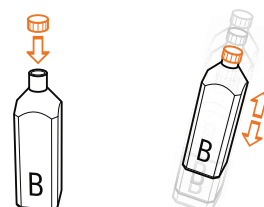

Fig. B11.2
2. Close the bottle containing both liquids with the cap. Mix the two components by vigorously shaking the bottle for 30 seconds (Fig. B11.2).